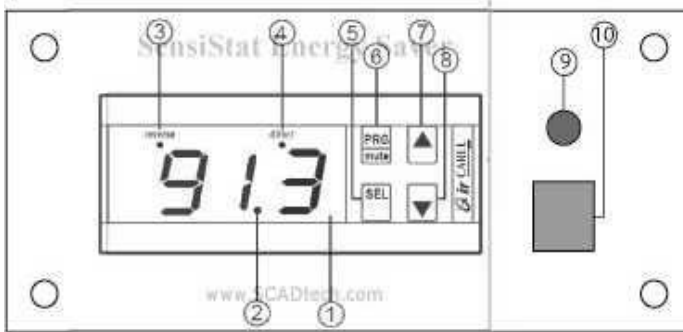

Figure 2: Front Panel of SensiStat™ Energy Saver
You control the functions of the daughter board via the function button (# 10 on figure 2) and receive feedback from the daughter board via the function LED (# 9 on figure 2).
You may change the settings of the thermostat, including the holding plate freezing temperature, differentials, and display units (Fahrenheit or Centigrade) using the buttons on the thermostat (#5 through #8 on figure 2).
Power-on self-test: Each time the SensiStat™ refrigeration controller receives power, it conducts a self-test and determines the voltage of your batteries. The indicator LED (“9” in figure 2) will display a string of 8 rapid flashes, pause, flash the revision code of the firmware (such as one long, and three short flashes for revision 1.3), pause, and then display another string of 8 rapid flashes. At this point you are assured the system is working correctly.
Normal Thermostat Mode: When battery voltages are below charging voltage, the SensiStat™ will operate as a very precise thermostat. When demanding the compressor to run, the “direct” LED (#4 in figure 2) will flash slowly. By default, the temperature of the ice box is displayed. Pressing the down key (#8 in figure 2) will briefly display the holding plate temperature. (see “Customization” below if you prefer the holding plate temperature to be displayed by default).
The SensiStat™ indicator LED flashes (1/2 second on - 1/2 second off) when “free power” first becomes available. After 30 seconds, the LED will light continuously and the differential will be overridden. When the SensiStat™ is asking the compressor to run, a small LED under the word “Direct” and indicated by the number 4 on Figure 2 will flash.
To start the manual override mode, briefly press the function button (#10 on figure 2). The function LED will flash once per second during manual override mode. The “direct” LED (#4 on figure 2) will flash indicating the thermostat is asking your refrigeration compressor to run. The “direct” LED will continue to flash until the holding plate is re-frozen or 60 minutes have elapsed.
To cease the manual override mode, briefly press the function button (#10 of figure 2). The function LED will cease flashing once per second. The SensiStat™ will return to normal operation. If “Free Power” is available, the SensiStat™ will respond accordingly.
To enter disabled mode, press and hold the function button (#10 in figure 2) until one string of rapid flashes is displayed, then release the function button. The SensiStat™ will enter disabled mode. The function LED will flash briefly once every 15 seconds or so. This brief occasional flashing is just a reminder to you that the SensiStat™ is in disabled mode.
Your SensiStat™ by default displays the temperature sensed by the ice box temperature sensor. By pressing the Down key (#8 in figure 2) you may momentarily view the holding plate sensor reading.
1. To enter the set point programming mode, press and hold the SEL key (#5 in figure 2) for 5 seconds.
4. If you wish to change this value, press either the Up or Down keys (#7 or #8 in figure 2) until you reach the new desired value.
8. If you wish to change this value, press either the Up or Down keys (#7 or #8 in figure 2) until you reach the new desired value.
1. To enter the differential programming mode, press and hold the PRG key (#6 in figure 2) for 5 seconds.
6. To change the differential value, press either the UP or Down keys (#7 or #8 in figure 2) until you reach the desired value.
11. To change the override differential value, press either the UP or Down keys (#7 or #8 in figure 2) until you reach the desired value.
1. Press and hold the function button (#10 on figure 2).
3. The function LED (#9 on figure 2) will begin to flash out voltage setting options in a Morse code-like fashion. The selections will be displayed as follows: